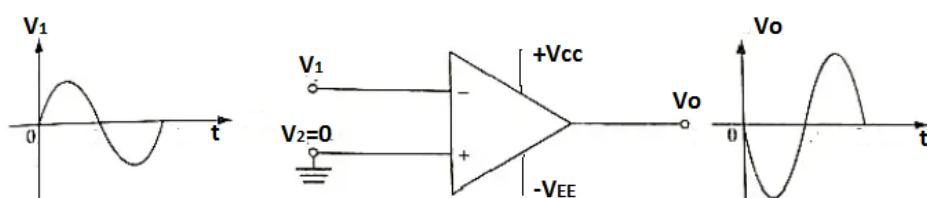
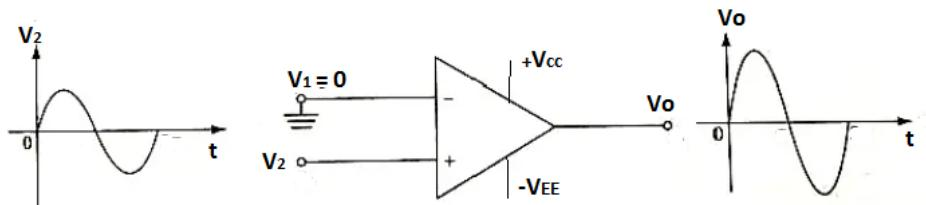

Figure 3.3: Inverting amplifier
Figure 3.4: Non-Inverting amplifier
- The output voltage  $V_o$  is in phase with input if the signal is connected to the non inverting terminal as shown in Figure 3.3. The output voltage  $V_o$  is out of phase with the input if the signal is connected to the inverting terminal as shown in Figure 3.4.